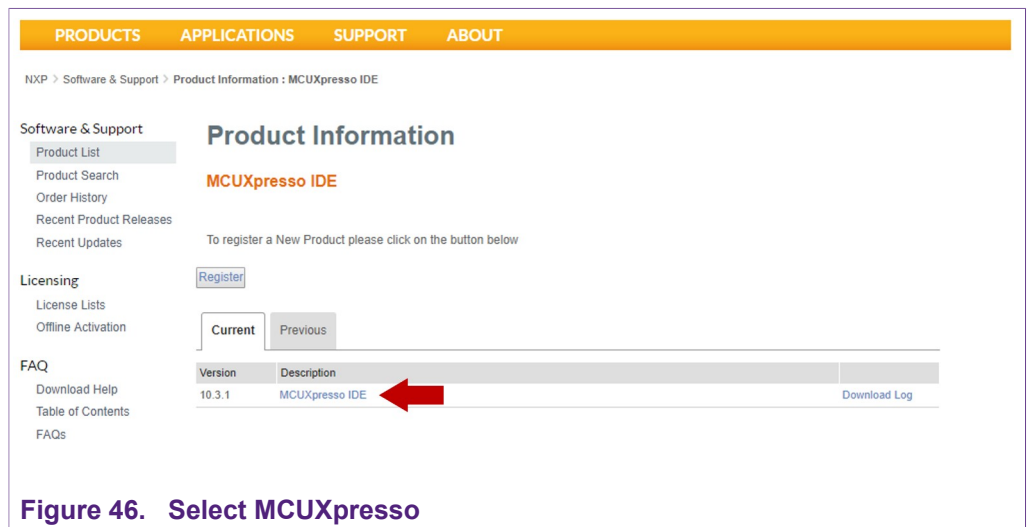

Figure 46. Select MCUXpresso
4. Click on MCUXpresso IDE as shown in Figure 46: